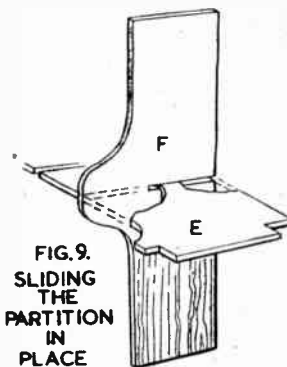

FIG. 9. SLIDING THE PARTITION IN PLACE
The partitions can now be pushed into place and fixed from the back with thin 1/4 in. screws. Fig. 9 shows a cut-away view of one of the partitions in position on the shelf (E).